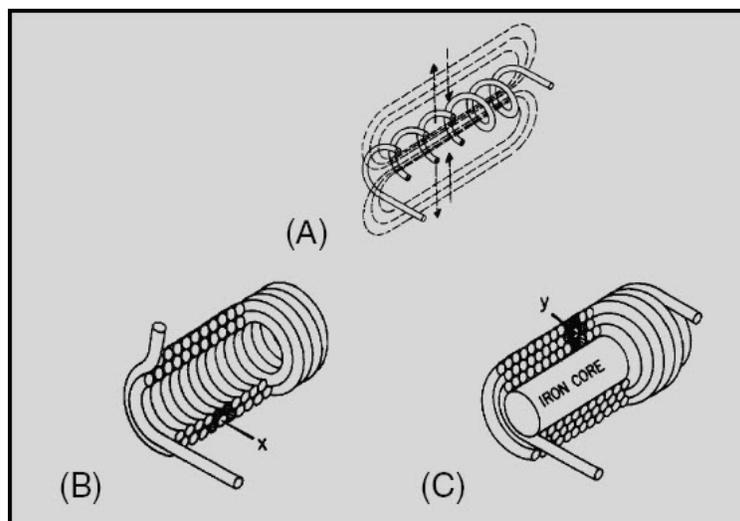

Figure 2-9 Coils of various inductances
Another way of increasing the inductance is to wind the coil in layers. Figure 2-9 shows three cores with different amounts of layering. The coil in figure 2-9(A) is a poor inductor compared to the others in the figure because its turns are widely spaced and there is no layering. The flux movement, indicated by the dashed arrows, does not link effectively because there is only one layer of turns. A more inductive coil is shown in figure 2-9(B). The turns are closely spaced and the wire has been wound in two layers. The two layers link each other with a greater number of flux loops during all flux movements. Note that nearly all the turns, such as X, are next to four other turns (shaded). This causes the flux linkage to be increased.
A coil can be made still more inductive by winding it in three layers, as shown in figure 2-9(C). The increased number of layers (cross-sectional area) improves flux linkage even more. Note that some turns, such as Y, lie directly next to six other turns (shaded). In actual practice, layering can continue on through many more layers. The important fact to remember, however, is that the inductance of the coil increases with each layer added.